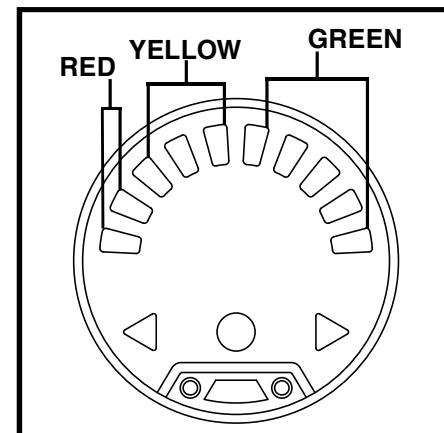

Figure 8. Battery Condition Meter
The battery condition meter on the tiller console indicates the approximate strength of your batteries using a color code. From right to left on the meter, green (5 LEDs) indicates fully charged batteries, yellow (3 LEDs) a draining charge, and red (2 LEDs) indicates that an immediate recharge is necessary. See **figure 8**. To ensure the highest accuracy, the battery condition meter should be checked while operating your vehicle at full speed on a dry, level surface. When 5 LEDs (2 red LEDs and 3 yellow LEDs) are displayed, your batteries have 10% charge remaining.
**NOTE:** *The battery pack(s) can be charged off of the vehicle individually or together or charged on the vehicle. See Figure 8.*